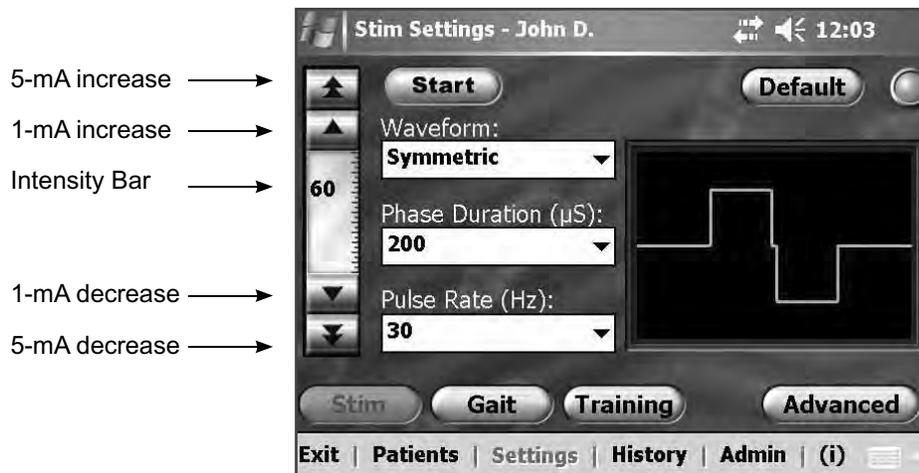

Figure 9-8: Stim Settings window.
1. From the Patients List, select a patient and press **Open**. The Stim Settings window will open. See Figure 9-8.